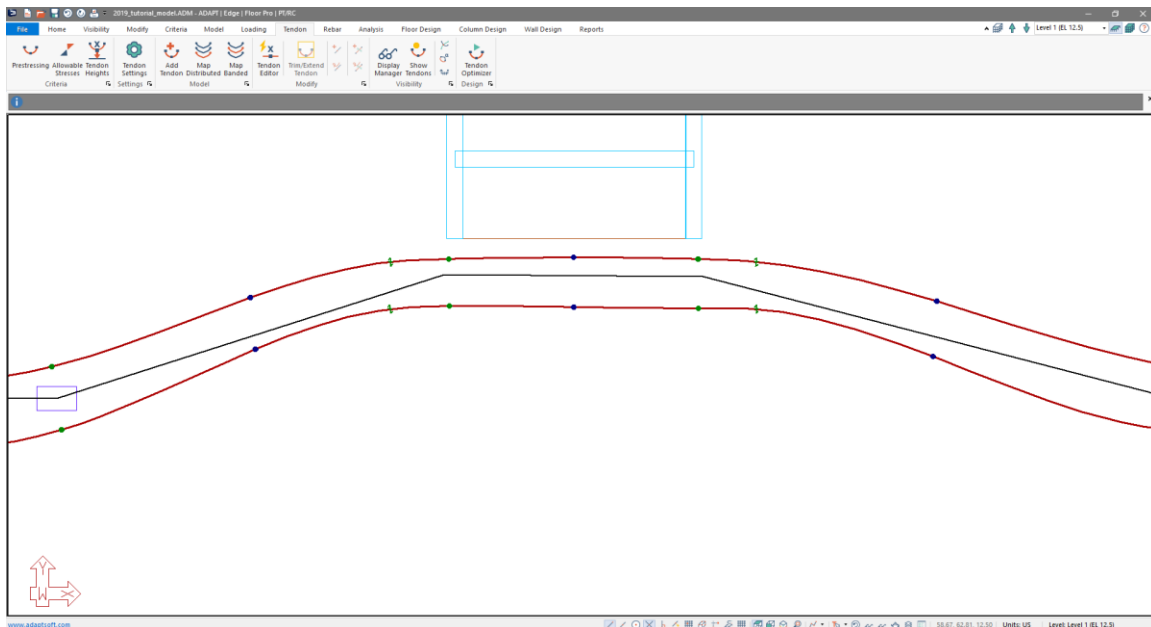

Figure 9-49
- Adjust the location of the swerve points such that you get a smooth curvature of the spans and the tendon does not curve toward the core opening along the fourth span. In the end your swerve points (green arrows) and tendon high points (brown hexagon) should be similar to that shown in **FIGURE 9-49**.